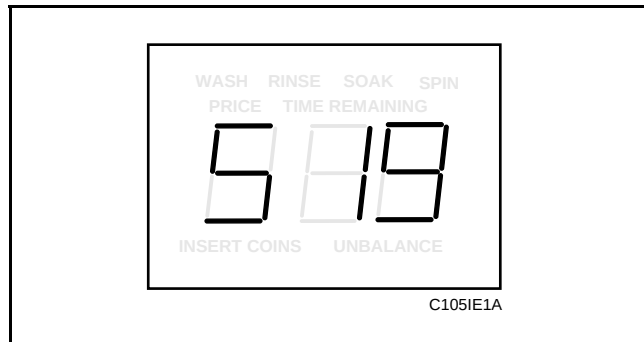

Figure 13
2. While pressing and holding the PERM PRESS keypad with one hand, press the COLD keypad with the other hand. Programmable option number one, “Slg”, will appear in the VFD. See **Figure 13**.